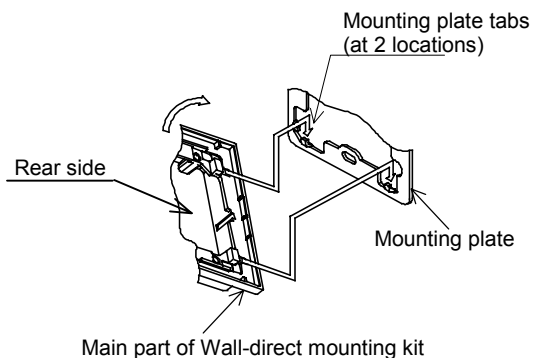

Figure 6. Installing the main part of the Wall-direct mounting kit
- 2) Install the main part of the Wall-direct mounting kit on the mounting plate. (See Fig. 6.)